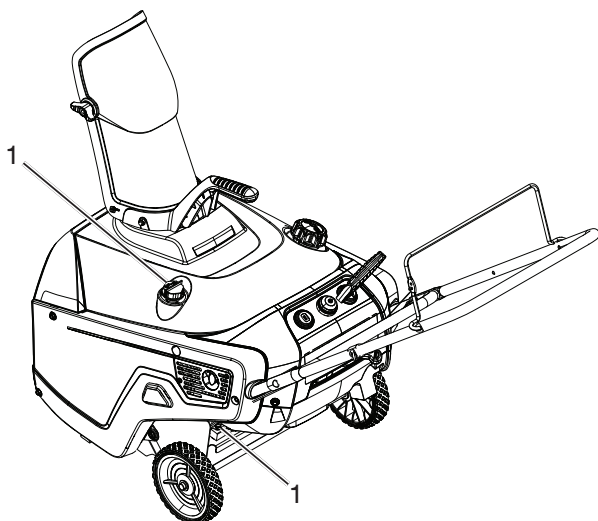

Figure 24
7. Clean around the oil filler cap/dipstick (Figure 24).